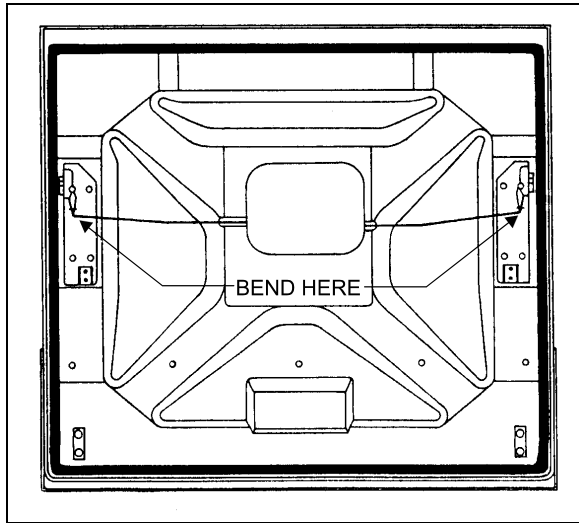

FIGURE 56: BAGGAGE COMPARTMENT DOOR 18067
- With door slightly open, pull door handle while an assistant checks that both latches release simultaneously. If not, with latch engaged, gently bend the appropriate latch control rod until proper timing is achieved (Fig. 56).